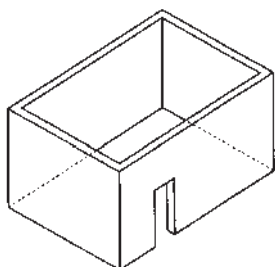

Fig. 3 - Enclosure with walls on all sides but no overhead cover.
- An enclosure with walls on all sides, but at least one permanent opening at ground level and no overhead cover. See Fig.3.